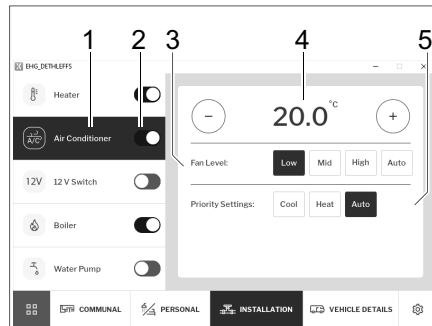

Fig. 276 Air conditioning unit
- Use the switch to turn the air conditioning unit (Fig. 276,2) on or off.
- Click on the *Air Conditioning Unit* (Fig. 276,1) button.
- Use the plus and minus buttons to select the desired living area temperature (Fig. 276,4).
- Set the desired prioritisation (cool/heat/auto) (Fig. 276,5).
- Selection ventilation level (Fig. 276,3).